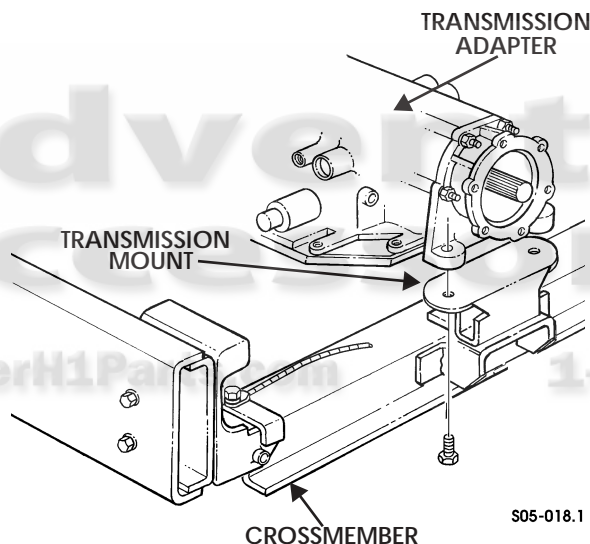

Figure 5-73: Transmission Adapter and Crossmember
1. Remove two capscrews from transmission adapter and transmission mount (Figure 5-73).
4. Install crossmember capscrews, retainer cable, and relief valve, lockwashers, and washers. Tighten to 90 lb-ft (122 N•m) (Figure 5-73).
5. Lower transmission adapter onto transmission mount, install capscrews and tighten to 65 lb-ft (88 N•m) (Figure 5-73).